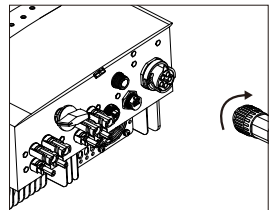

Figure 5.24 AC connector to PV Inverter
C) Connect AC connector with PV Inverter, then tighten AC connector for clockwise (see figure 5.24), until hearing a slight clicking sound indicates connection succeed.